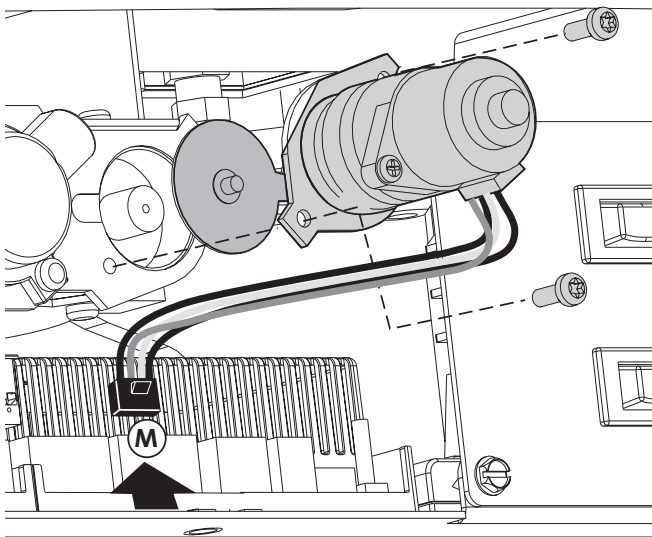

Figure 48. Flame Control Motor installation.
1. Using a Torx T-20 screwdriver, remove the two screws from the front of the manual regulator and remove those components as shown in fig. 48.
3. Connect the wire harness to terminal (M) on the front side of the IFC board.